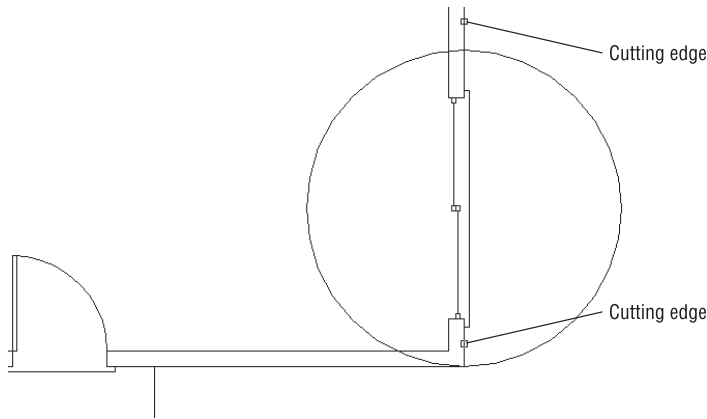

FIGURE 5.12: Selecting wall lines to be cutting edges
10. Select the two outside wall lines on the far right, as shown in Figure 5.12, and then right-click.